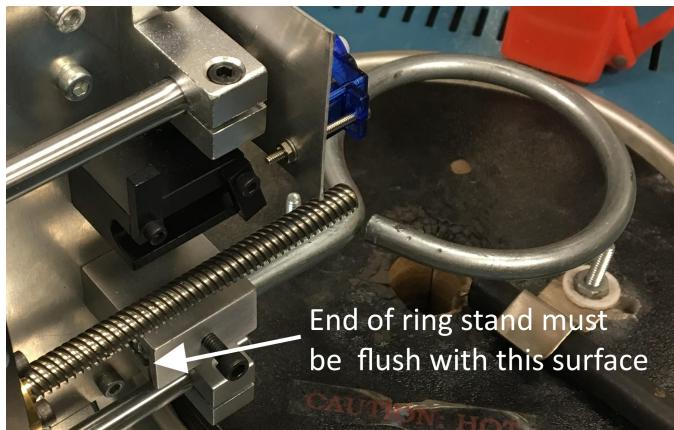

Figure 18: Place the ring stand so its end is flush with the inside surface of the mount block
- Note that the end of the ring stand rod must be nearly flush with the inside surface of the ring stand mount block See Figure 18